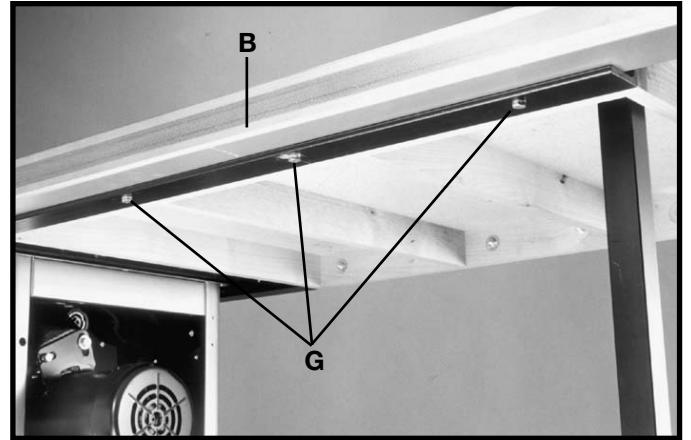

Fig. 21
2. Position the guide tube (B) Fig. 21, on the front rail and fasten the guide tube to the rail using the 1/2" long hex screws (G) and lockwashers in all of the holes.